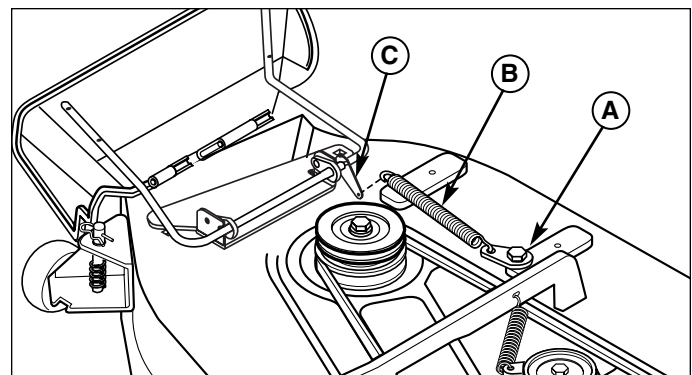

Figure 7. Connect Deflector Spring
8. Install the deflector spring (B, Figure 7). Attach the centered leg to the deflector arm (C). Attach the offset leg to the spring anchor (A).